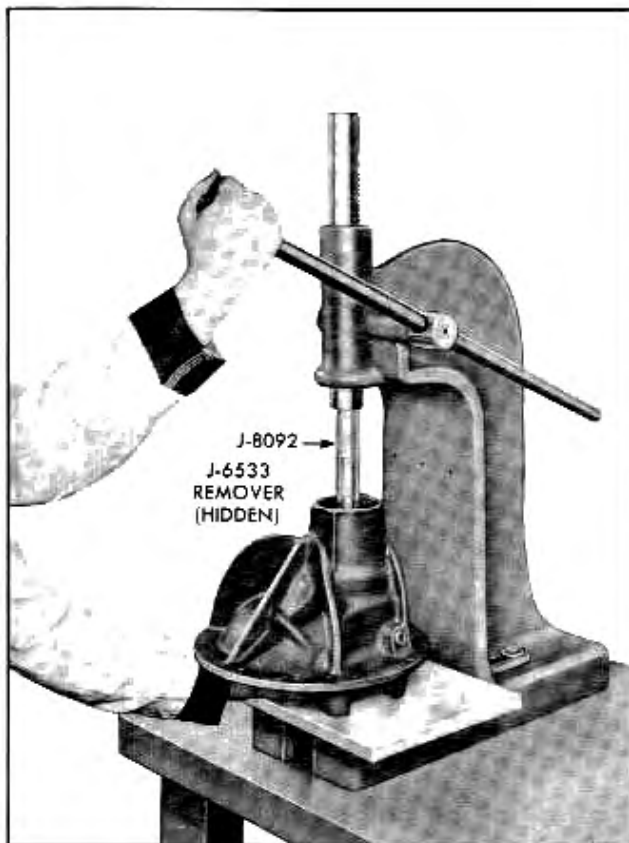

Fig. 4-31 Removing Rear Bearing Outer Race With Remover J-6533 And Drive Handle J-8092
14. If pinion rear bearing is to be replaced, press pinion rear bearing outer race from carrier using Remover J-6533 and drive Handle J-8092 (Fig. 4-31). Use care to prevent race from dropping and causing possible damage to race.